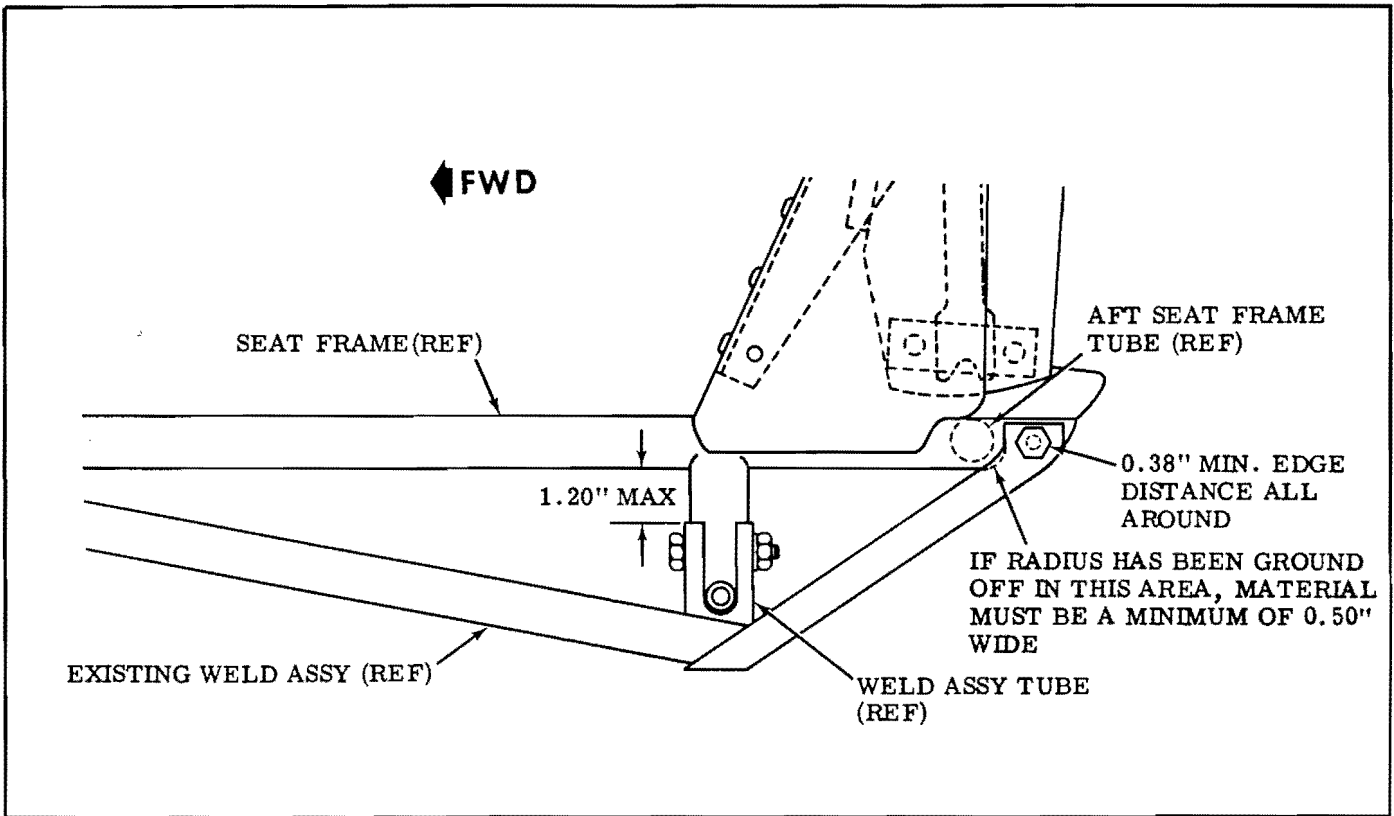

Figure 1.
1. Inspect weld assemblies, installed on outboard side of pilot seat and front passenger seat, for correct installation dimensions as shown in Figure 1.
2. If dimension between weld assembly tube and seat frame exceeds 1.20-inches, proceed to Part II (see Figure 1.).
3. If radius of aft inboard strap of weld assembly has been ground off to clear aft seat frame tube and strap is less than 0.50-inch wide in that area, proceed to Part II (see Figure 1.).
4. If edge distance (ED) on bolt mounting holes of either aft inboard or aft outboard strap is less than 0.38-inch, proceed to Part II (see Figure 1.).
5. If all dimensions of installed weld assemblies are as shown in Figure 1., fill out and mail Compliance Card and note on Compliance Card that all dimensions are acceptable.